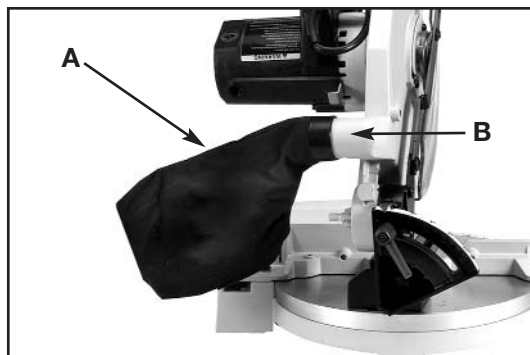

Fig. 10
Attach dust bag assembly (A) Fig. 10 to dust spout (B) on rear of upper guard assembly.